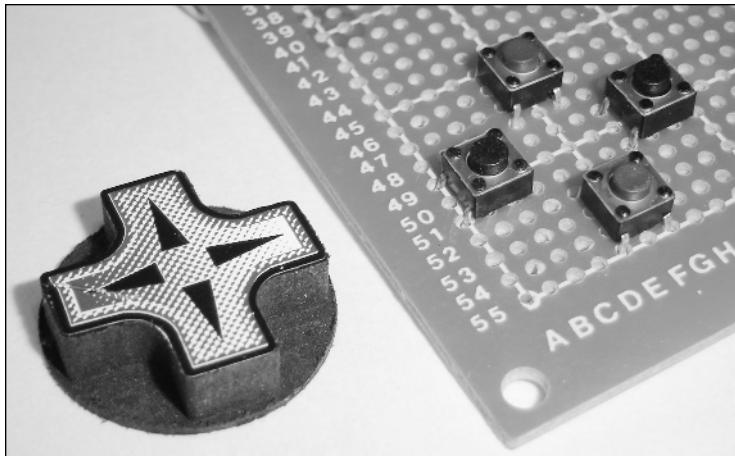

FIGURE 3-14: Tact switch pushbuttons used as an up/down/left/right gamepad.
- **Joysticks.** Whether you have a gamepad-type disc (like most modern systems) or an actual joystick, you can use small tact pushbuttons to sense which direction is being pressed (Figure 3-14).